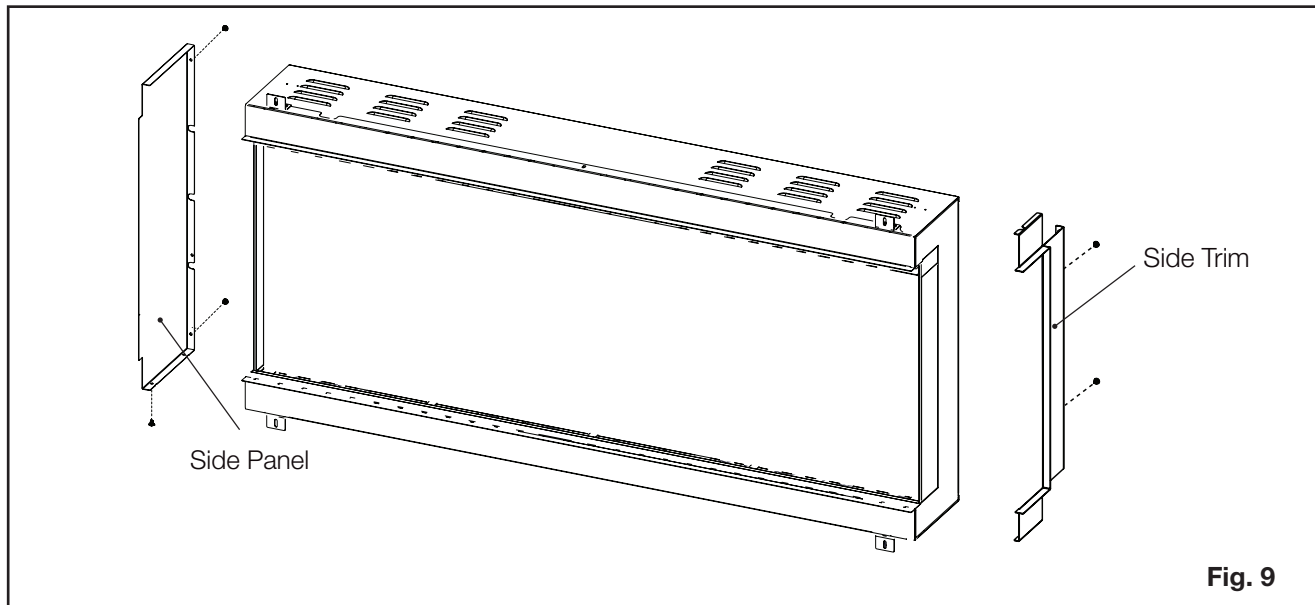

Fig. 9
2. For desired open side, remove the screws from the back of the fireplace which align with the trim then secure the trim using the metal screws provided **(Fig. 9)**.